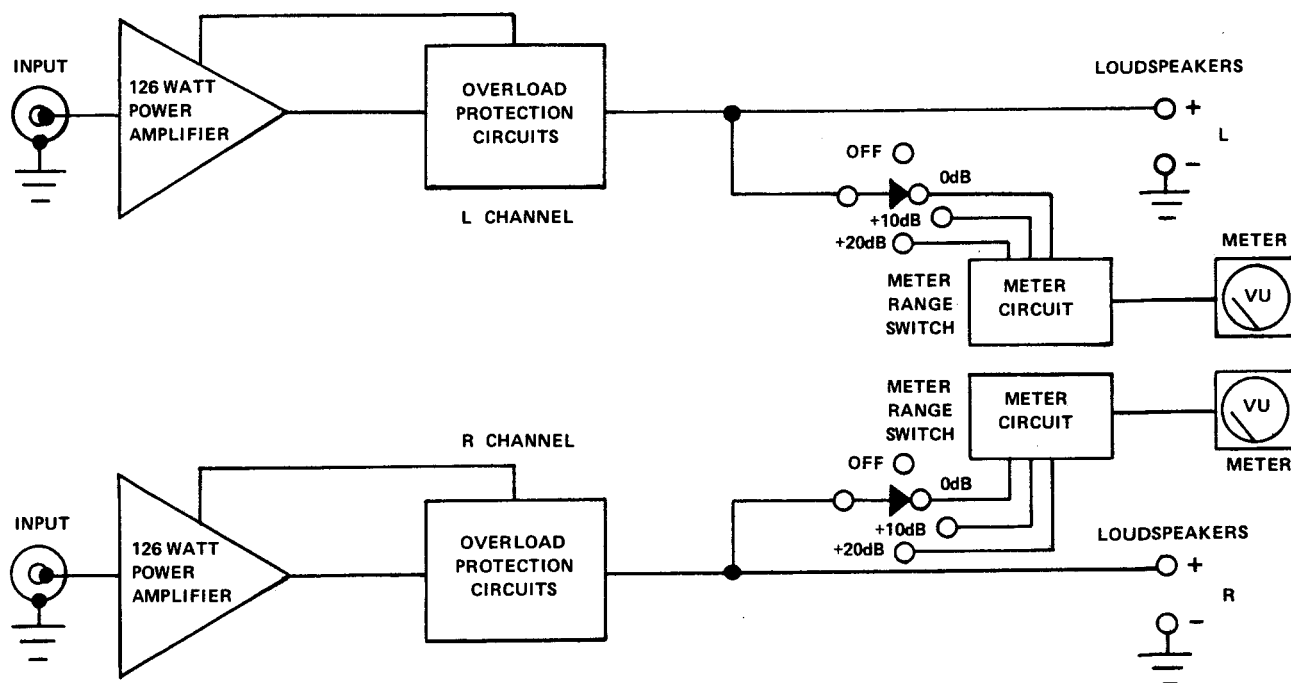
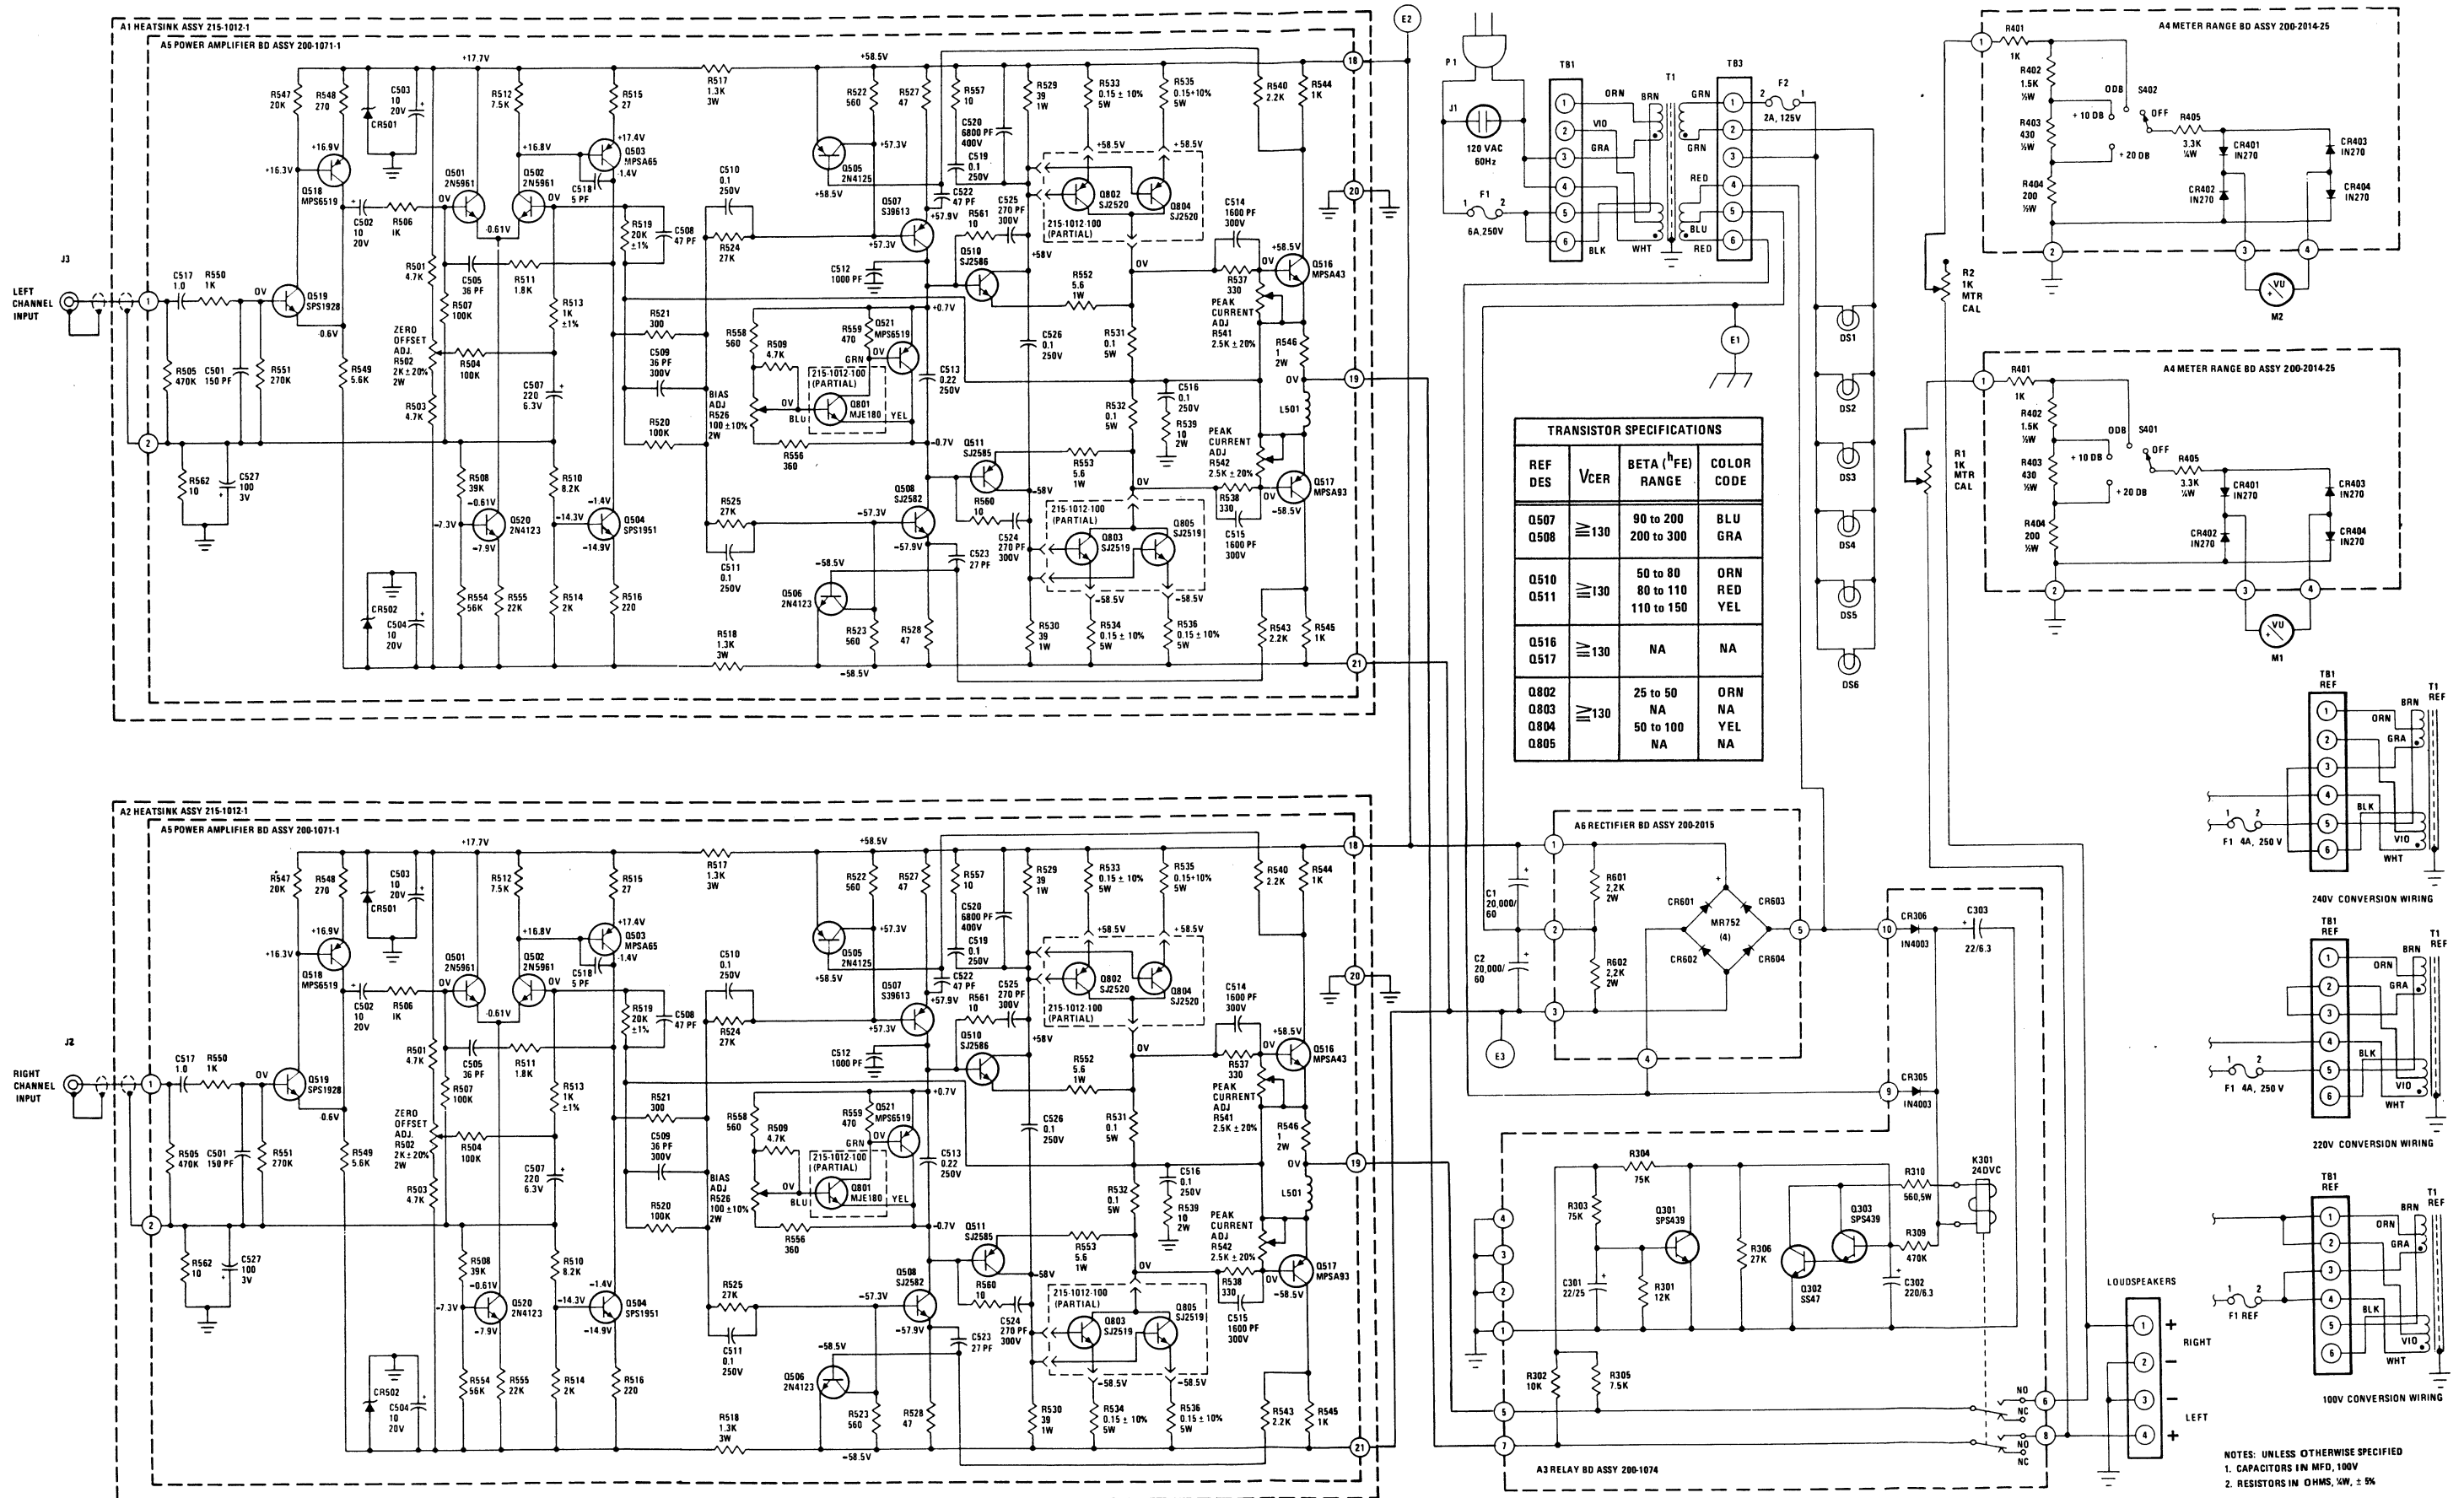

Figure 1. Model 250M Simplified Block Diagram
Figure 2. Model 250M Schematic Diagram
Performance evaluation tests and service of the Model 250M should be undertaken only by the experienced technician, one knowledgeable in solid-state amplifier operation and use of the test equipment. All instructions should be read carefully and understood fully before proceeding with any service. To better understand the functions of this amplifier, consult the Block Diagram, Figure 1, the Schematic Diagram, Figure 2, the Wiring Diagram, Figure 3, and the circuit description of the unit.
The input stage of the Power Amplifier circuit, Figure 2, is a unity gain, complementary feedback pair, (Q518 and Q519). The output of this stage is coupled through C502 and R506 to the differential amplifier (Q501, Q502), which drives an inverter (Q503) whose collector load is a current source Q504. The inverter is coupled to complementary pre-drivers (Q507, Q508). The outputs of the pre-drivers are applied to their respective drivers (Q510, Q511) which are coupled to their respective power transistors (Q802, Q804 – Q803, Q805).
The output of the Power Amplifier is applied to the wipers of relay K301 on the Relay Board, Figure 2. Relay K301 energizes after a minimum delay of two seconds after turn on. Power for Q301, Q302, Q303 and K301 is supplied by CR305 and CR306. The length of the delay is a factor of the time constant of R306, R309, and C302. This delay at turn-on is to prevent any transient surges from reaching the output terminals. Additionally, resistors R302 and R305 sample the audio output signals. Should a constant dc level more than +4.5 volts, or a high amplitude signal less than 10 Hz be present, Q301 will turn on, shorting the base of Q303 to ground. Q302 begins to discharge and K301 de-energizes. If a constant dc level more than -4.5 volts is present, the voltage drop across R304 bucks the voltage present at the base of Q303 and K301 de-energizes. The output from K301 is applied to the loudspeaker terminals.
3. Refer to Figure 2, Schematic Diagram and Figure 3, Wiring Diagram to locate detailed parts and wires referenced.
1. Set Line Switch to OFF. Preset the bias adjustment potentiometer R526 on each amplifier board fully CCW, Figure 2.